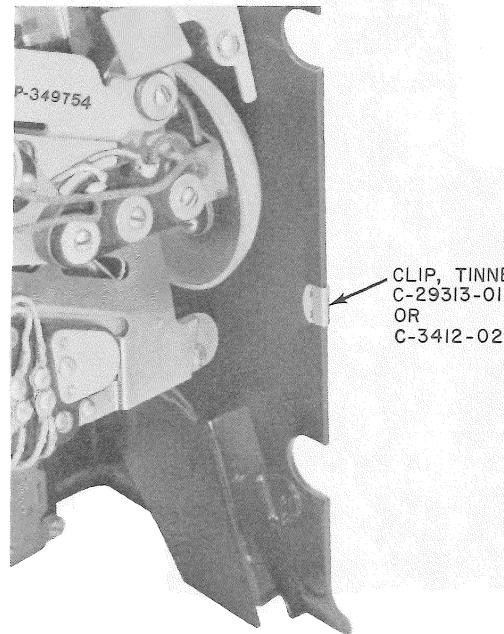

Fig. 20—Method of Grounding Upper Housing to Backplate
- 4.18** To ground upper housing to backplate: Place U-shaped spring clip on left edge of upper housing so it will make contact with housing contact spring (Fig. 20).